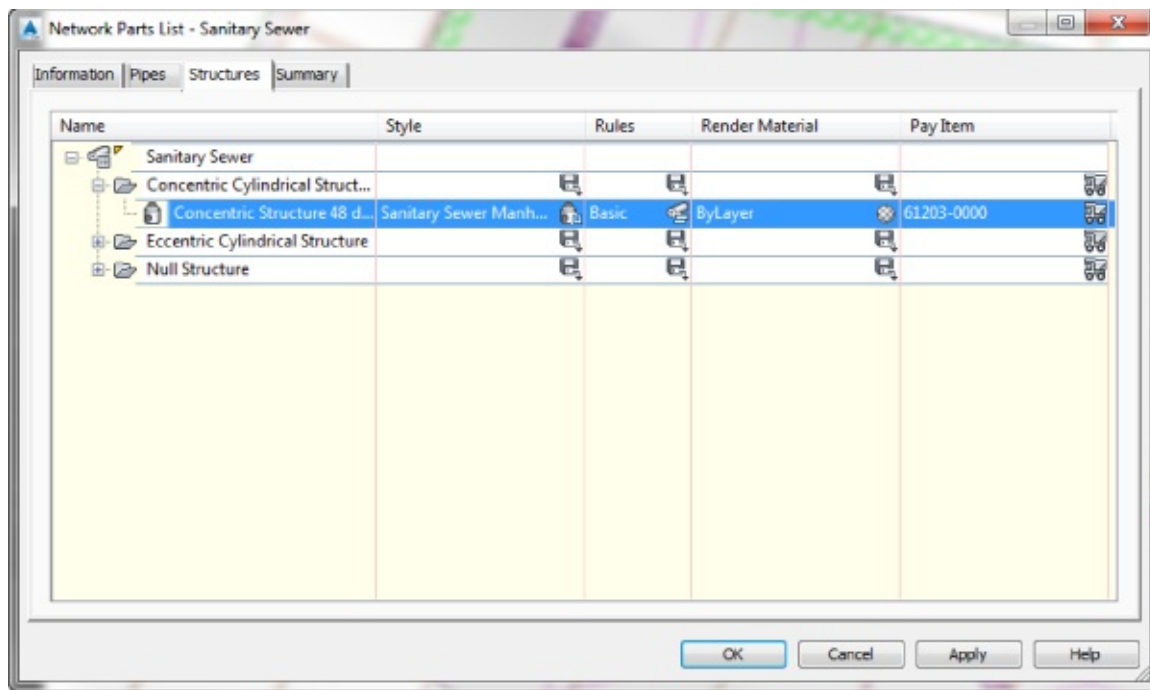

Figure 17.15 Completed structure parts pay item assignments
1. In the Pay Item List dialog under Favorites, select MANHOLE, SANITARY SEWER, and click OK. The Network Parts List should now look similar to Figure 17.15.